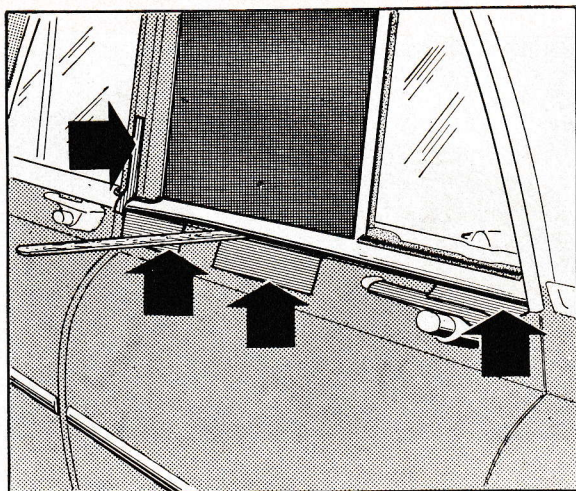

Fig. 36. Placing the protecting tape.
1. Lift the trim moulding out slightly with the help of a piece of wood and place tape (for example, Mystic tape) on the door and door pillar as shown in Fig. 36.